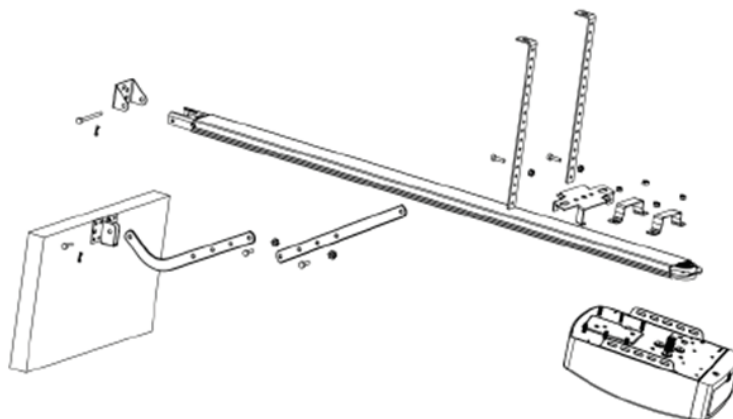
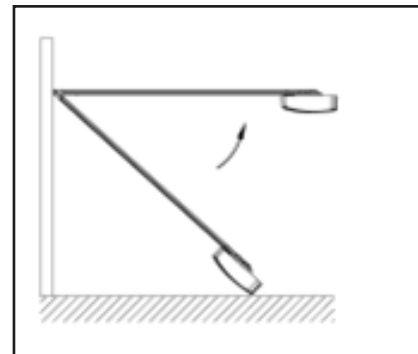
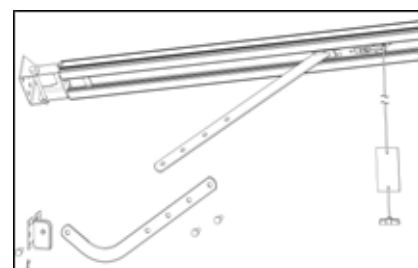

Figure 4
Figure 5
Figure 6
STEP 1 (Figure 4)
STEP 2 (Figure 4)
STEP 3 (Figure 4, Figure 5)
STEP 4 (Figure 4, Figure 6)